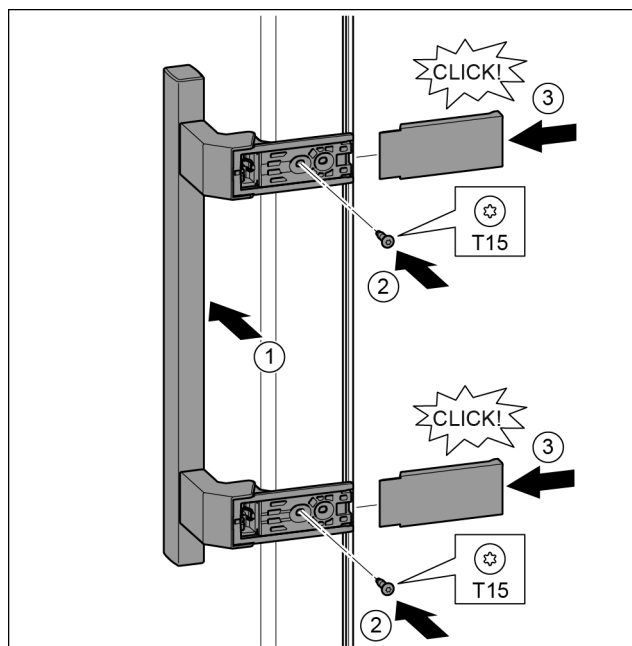

Fig. 21
- Position the handle on the other side. Fig. 21 (1)
- Tighten the screws with the T15 screwdriver. Fig. 21 (2)
- Position the covers on the side and push in. Fig. 21 (3)